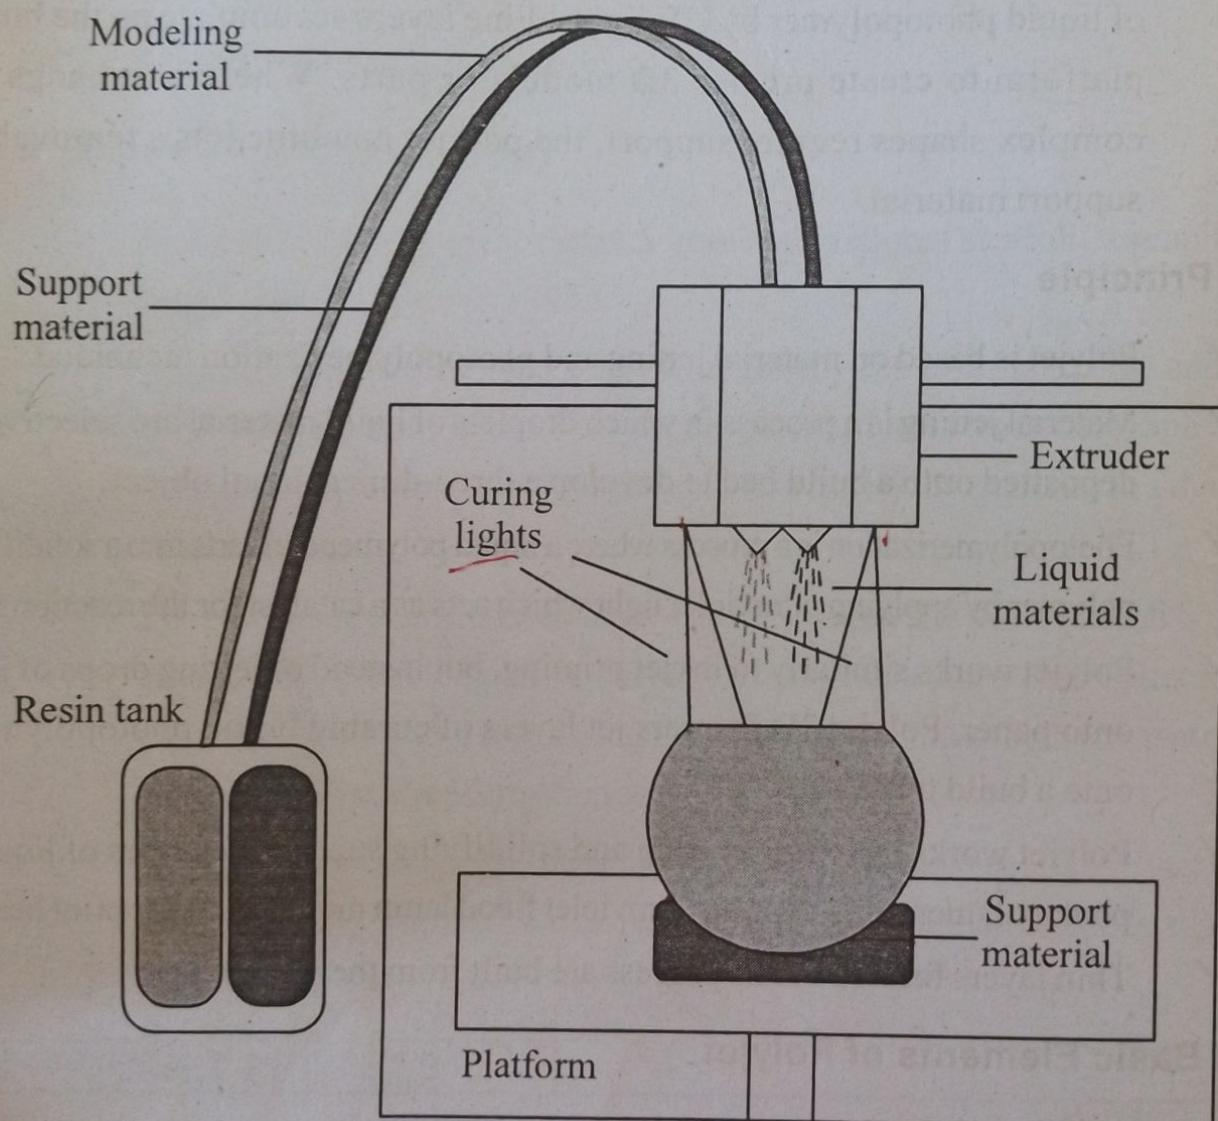

Figure 3.5 Polyjet process
- ✓ Figure 3.5 is an illustration of the Polyjet process.